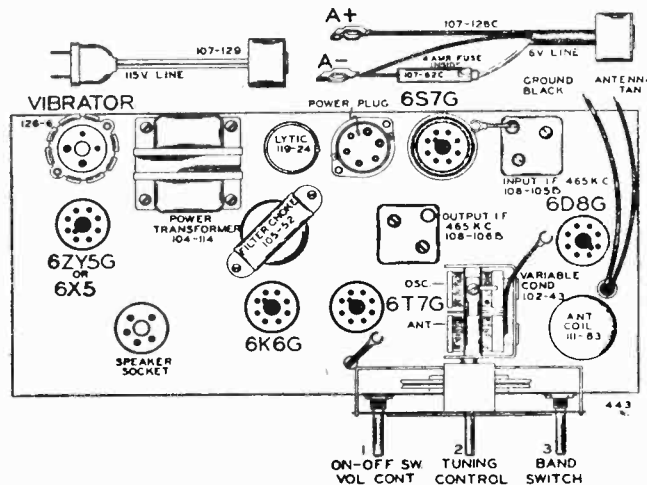

FIG. 1—TOP VIEW
- With external oscillator set at 1720 kilocycles, adjust oscillator trimmer to resonance. This adjustment is on the top of rear section of variable gang condenser. (See Fig. 1).
These I.F. transformers have two adjustments, both of which are accessible from the top of chassis (see Fig. 1).